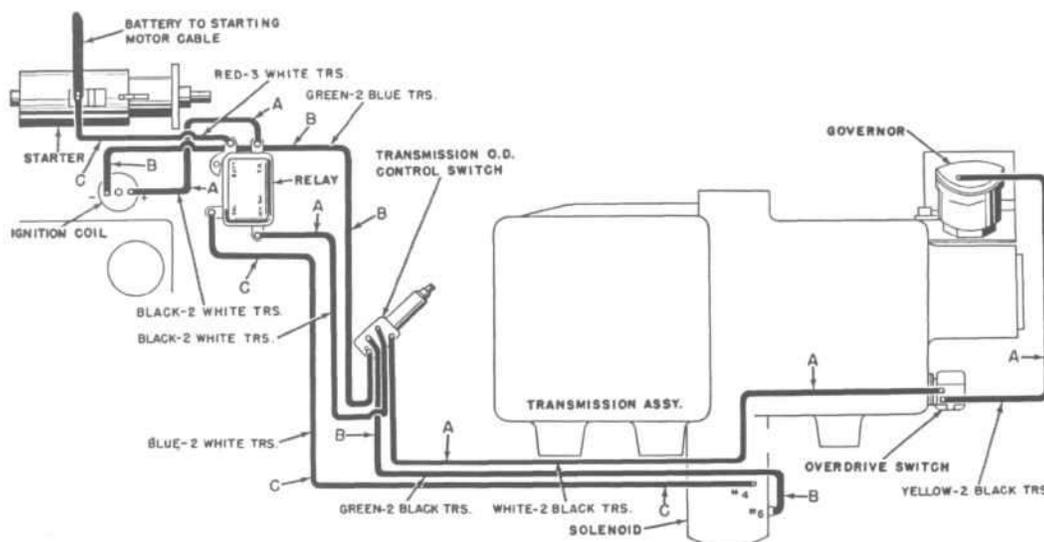

FIG. 198—COLOR-CODED WIRING DIAGRAM—OVERDRIVE
Three separate electrical circuits automatically control the overdrive. They are identified by letters A, B, and C on the overdrive wiring diagram, Fig. 198. Wire coverings are color-coded differently for each circuit to assist in tracing the individual circuits. Circuit A energizes the governor and controls the relay. Circuit B serves to momentarily short out the ignition circuit in conjunction with the kickdown switch. Circuit C energizes the solenoid.
d. The kickdown switch (Transmission O.D. Control Switch in Fig. 198) is mechanically operated by the accelerator pedal. See Par. K-19. Operation of the kickdown switch opens circuit A, in turn opening the relay and circuit C and de-energizing the solenoid. Operation of the switch also momentarily provides a direct ground for the ignition coil primary circuit through circuit B. Grounding the primary circuit causes the engine to miss about three consecutive firings, thereby relieving the torque and allowing disengagement of the solenoid pawl from the sun gear.